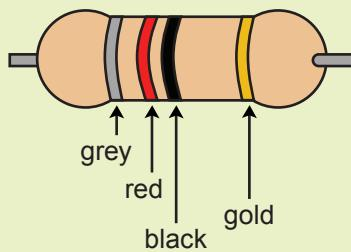

Figure 3.18
2. Using the resistor colour code in Figure 3.11, determine the resistances of the resistors in Figures 3.18 and 3.19.